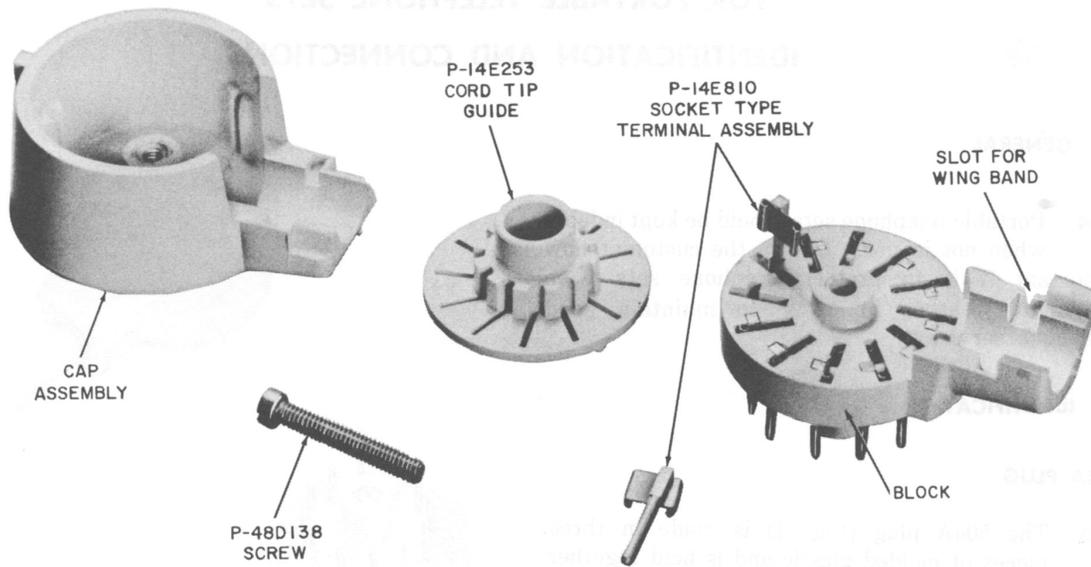

Fig. 5—504A Plug Disassembled
2.06 Slots are provided on plug block and shell (Fig. 5) to hold a wingband or clipped stay hook.
**4.05** Place cord tip guide on block (Fig. 5). Insert mounting cord tips into socket type terminals of plug.